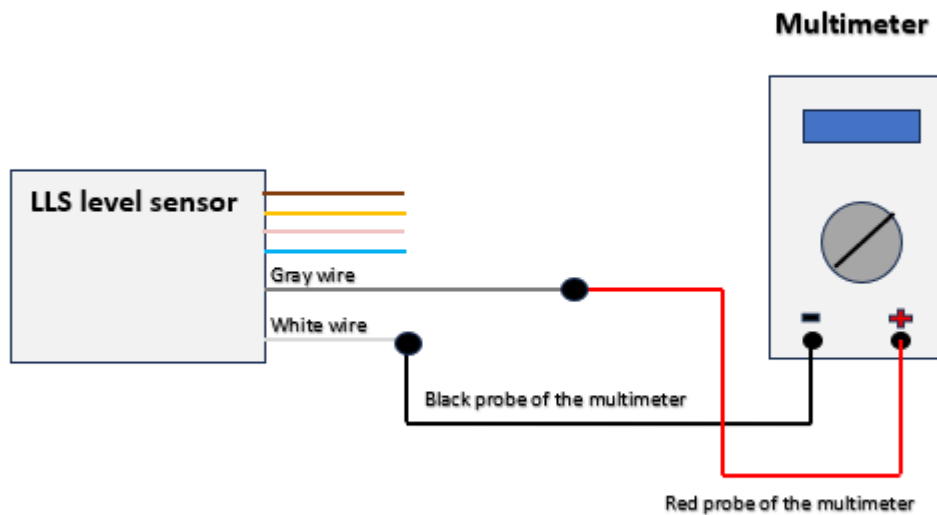

Fig. 7 Connection Diagram
2. Assemble the connection circuit according to "Fig. 7 Connection Diagram".